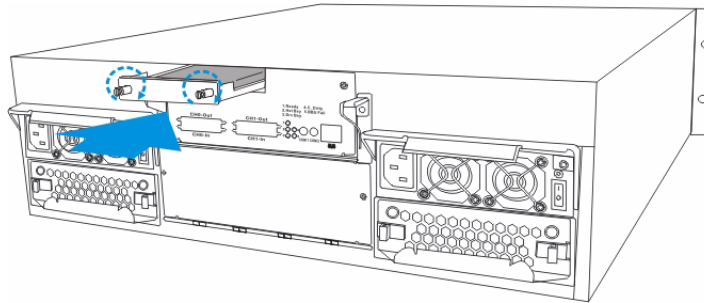

Fig. 6.9 Installing the BBU Module
3. Secure the BBU to the subsystem by fastening the two (2) retention screws on the back of the BBU (See *Figure 6.9*)